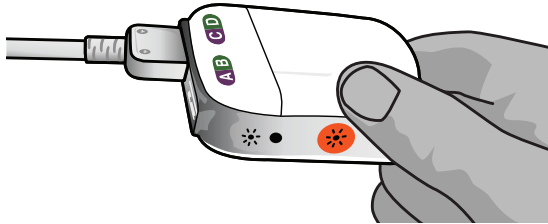

Figure 9: Connection of the 2x8 OR Cable to the External Trial Stimulator 2
3. Connect the OR Cable Extension to the External Trial Stimulator 2 socket labeled “CD” (Figure 9).